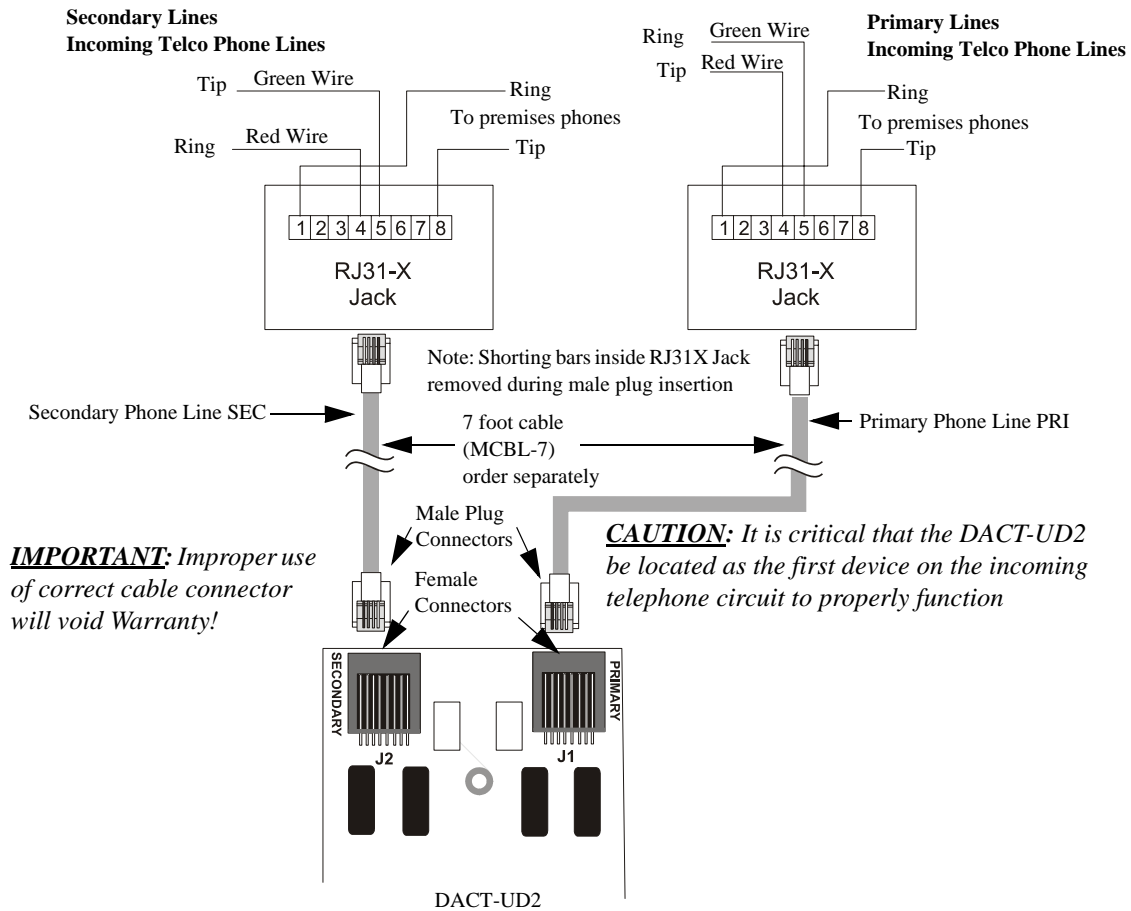

Figure 2.5 Wiring Phone Jacks
- Refer to "Digital Communicator" on page 10, before proceeding with this step. Connect the premises primary and secondary phone lines to the DACT-UD2 as illustrated in Figure 2.5 and test the system for correct operation